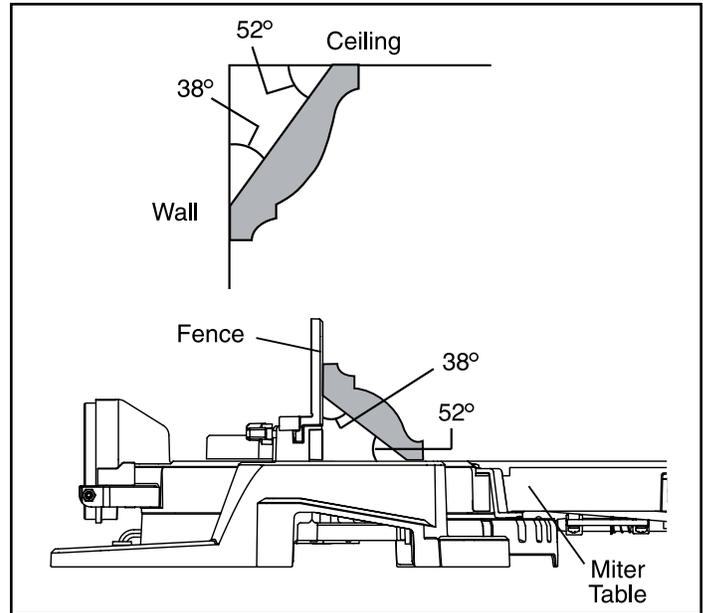

Fig. 34
6. Place the molding on the table at an angle between the fence and the saw table, as shown in Figure 34. It is highly recommended to use the work piece clamp to fix crown molding. Make sure that the work piece is clamped firmly against the table and the fence.
Angle the molding so the bottom of the molding (the part which goes against the wall when installed) is against the fence and the top of the molding is resting on the base of the saw (Fig 34).